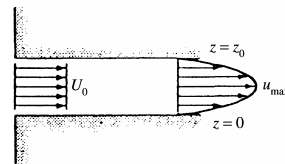

Fig. P3.17
3.17 Incompressible steady flow in the inlet between parallel plates in Fig. P3.17 is uniform, $u = U_0 = 8 \text{ cm/s}$, while downstream the flow develops into the parabolic laminar profile $u = az(z_0 - z)$, where a is a constant. If $z_0 = 4 \text{ cm}$ and the fluid is SAE 30 oil at 20°C , what is the value of u_{\max} in cm/s ?